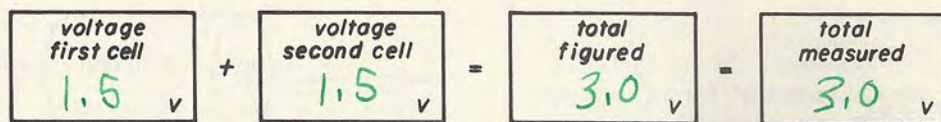
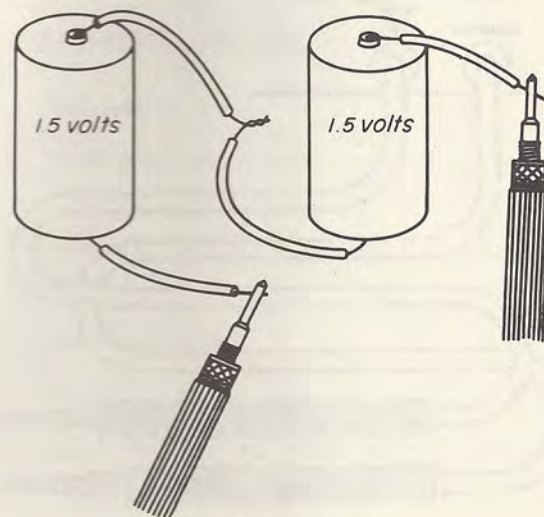

Fig. 7-9
Fig. 7-10
Step 2. Measure the voltage of the first cell, as shown in Fig. 7-8b. It should be about 1.5-volts. Read the meter carefully and record your reading in the first box of Fig. 7-9.
Step 3. Measure the voltage of the second cell. Read this voltage carefully and record it in the second box of Fig. 7-9.
Step 4. Add these two readings and write the total in the third box of Fig. 7-9.
Step 5. Measure the voltage of the two cells in series as shown in Fig. 7-10. Read the meter carefully and record this voltage in the fourth box of Fig. 7-9. By connecting these two cells in series aiding, you have made a 3-volt battery.